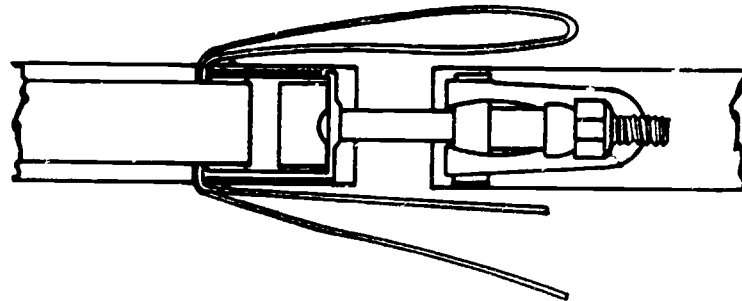

Figure 6. Side View, B-Band Clamp.
f. Bend the lower set of wires to the right and parallel to the "T" bolt. See figure 6.
g. Bend the upper set of wires to the right and parallel to the "T" bolt. See figure 6 again.